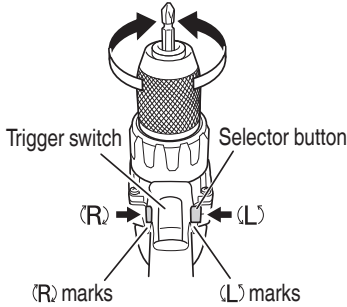

Fig. 13
The L-side of the selector button is pushed to turn the bit counterclockwise (See Fig. 13). (The (L) and (R) marks are provided on the body.)